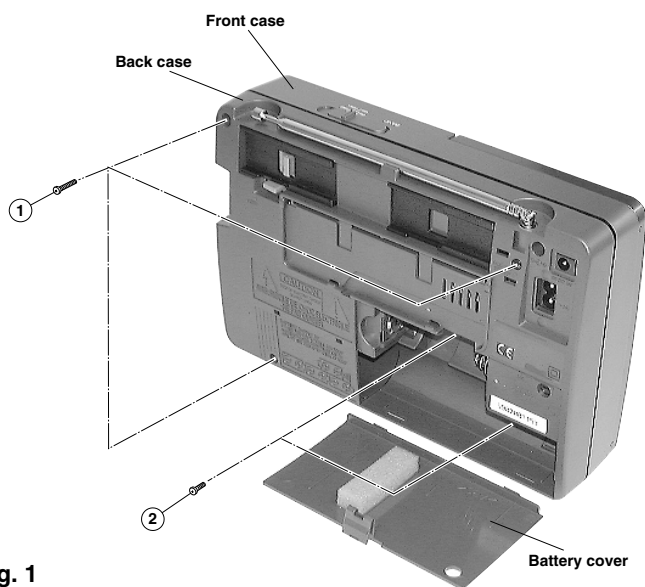

Fig. 1
1. Removal of Back Case (Fig. 1)
Adjust T202 for max. gain and the waveform of Fig. 1.